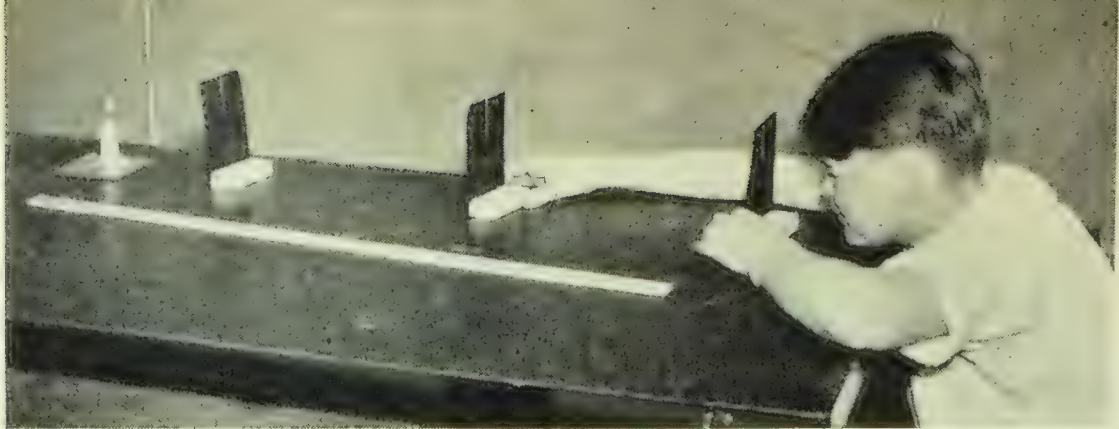

FIG. 449. Apparatus for Experiment 100
*Experiment 100.* IN WHAT WAY DOES LIGHT TRAVEL AWAY FROM AN OBJECT? Obtain three pieces of cardboard, tin, or wood about six inches square. Cut a narrow slit in the centre of each, as shown in Figure 449, and arrange some way of supporting each piece in an upright position at a distance of about one foot from each other. For a source of light use a candle, an electric lamp, or a flashlight.